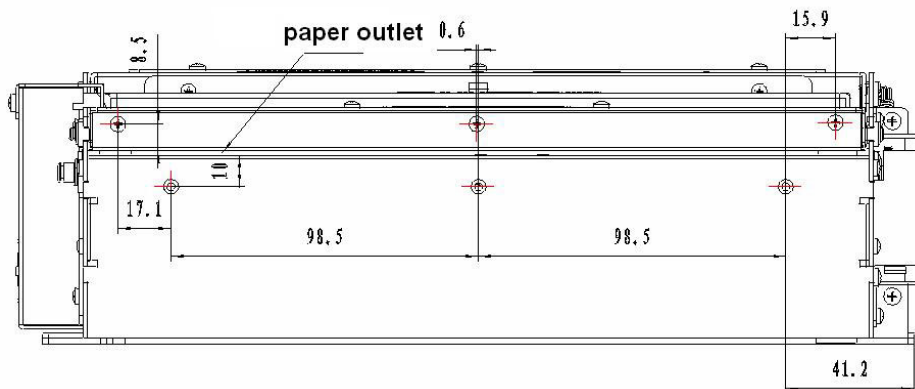

Figure 2.7.10 Fixing holes
- ◇ We leave fixing holes in printer mechanism for connecting paper out path for you as figure 2.7.10 (Notice the position of four fixing screw):